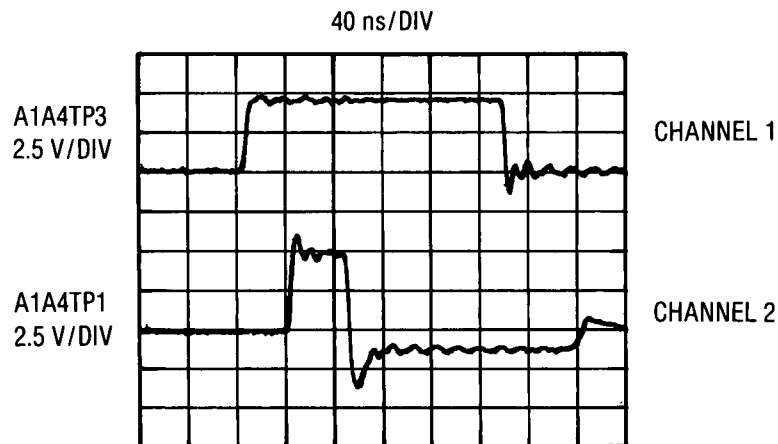

Figure 8-55. Pulse Driver Board Input and Series Pulses
20. Connect Channel 1 of the oscilloscope to A1A4TP3 and Channel 2 of the oscilloscope to A1A4TP1. Adjust the oscilloscope as shown in Figure 8-55 then compare the oscilloscope display to the figure.